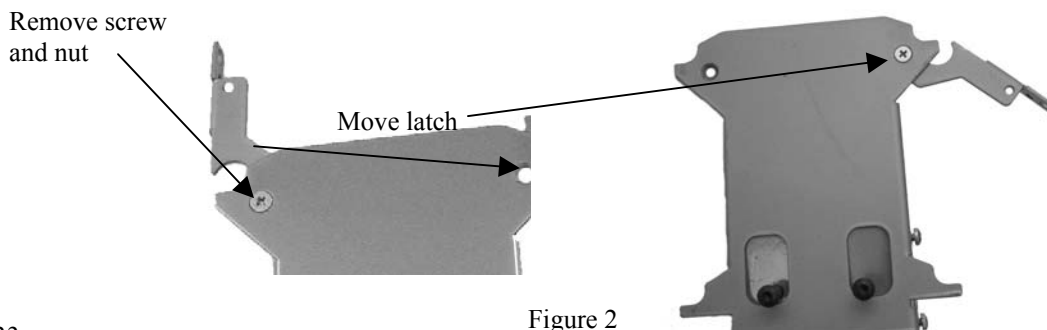

Figure 2
1. Remove Phillips head screw, Nylock nut and latching flag (see Figure 2).